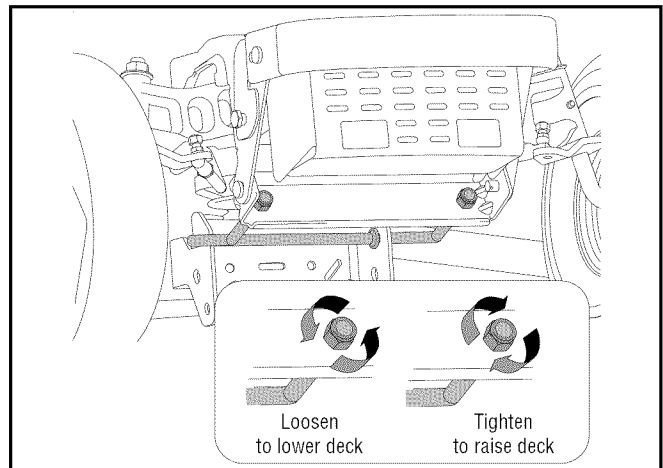

Figure 13
- Locate the two lock nuts on the front side of the stabilizer bracket. See Figure 13. Tighten the lock nuts to raise the front of the deck; loosen the lock nuts to lower the front of the deck.